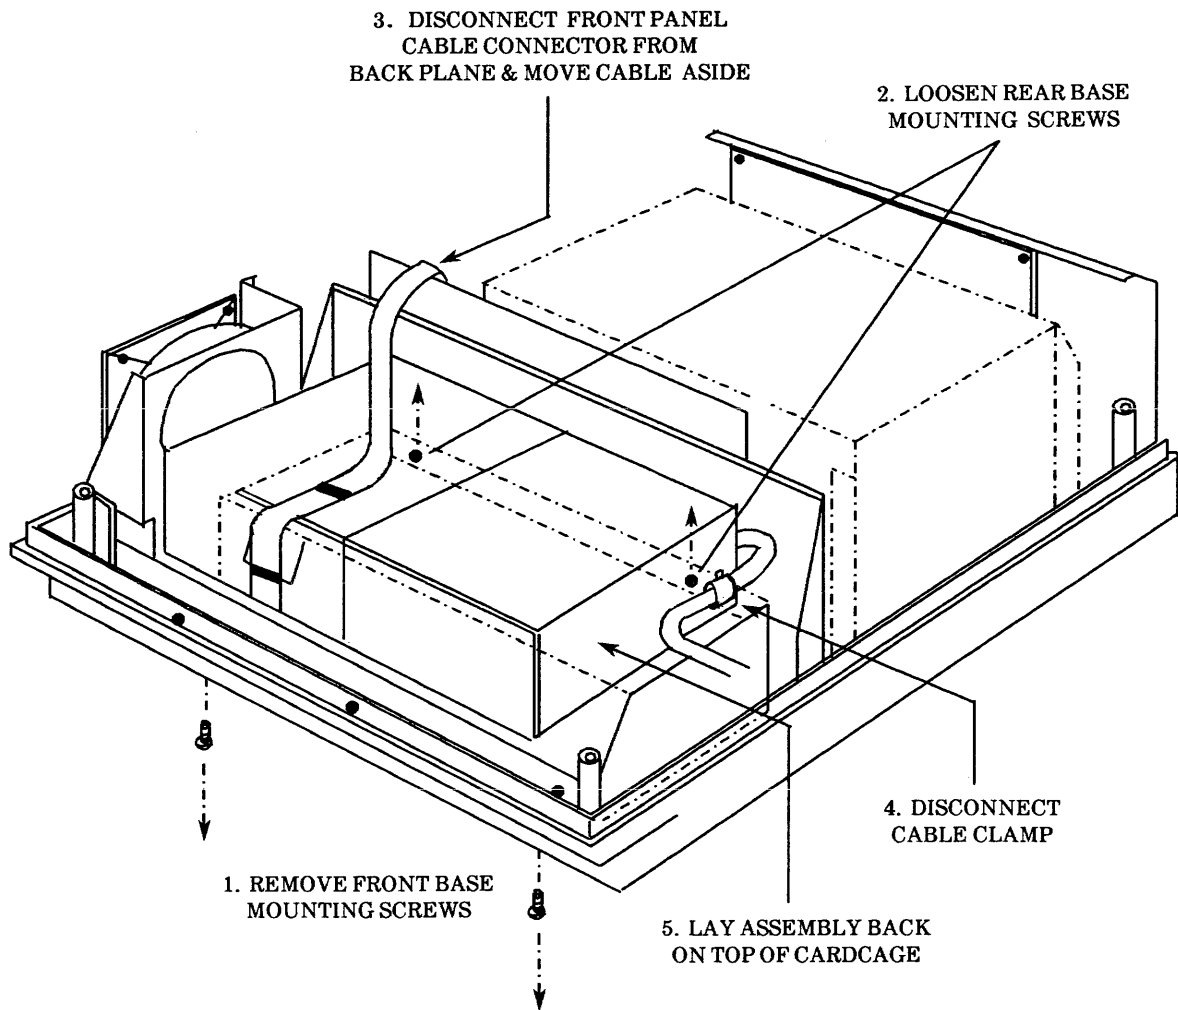

Figure 3-6. Disk Drive Removal
2. Remove the top cover. As you are removing the top cover retaining screws from the bottom of the chassis, also remove the two screws holding the front of the disk drive base plate. As shown in Figure 3-6, these screws are located just under the front lip of the chassis base.
3. After the top cover is off, loosen the two screws holding the rear of the drive base plate. Refer to Figure 3-6.